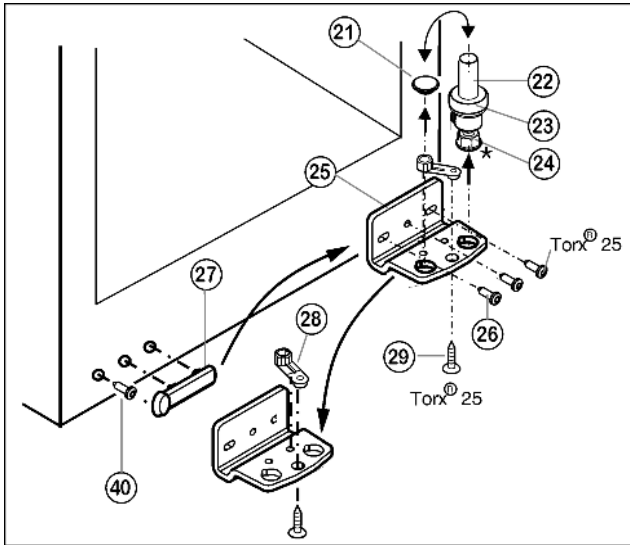

Fig. 5
- ▶ Lift out the bearing pin Fig. 5 (22) together with washer Fig. 5 (23) and adjustable-height foot* Fig. 5 (24).
- ▶ Lift off the stopper Fig. 5 (21).
- ▶ Unscrew Fig. 5 (26) the turn hinge Fig. 5 (25).
- ▶ Unscrew Fig. 5 (29) the bearing element Fig. 5 (28), transfer it to the opposite location hole of the turn hinge and screw it firmly into place.
- ▶ Carefully lift off the cover on the handle side Fig. 5 (27), undo the screw Fig. 5 (40) and transfer both to the opposite side.
- ▶ Screw the turn hinge Fig. 5 (25) firmly into place on the new hinge side, possibly using a cordless screwdriver (with 4 Nm).
- ▶ Re-insert the stopper Fig. 5 (21) into the other hole.
- ▶ Re-insert the bearing pin Fig. 5 (22) together with the washer and adjustable-height foot*. In so doing, pay attention that the locating lug points backwards